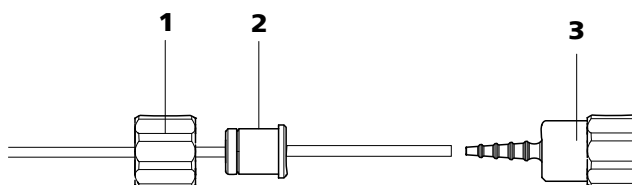

Figure 33 Install pump tubing connection without filter
- **Case B:** a 6.2744.160 pump tubing connection **without filter** (see figure 33, page 60).